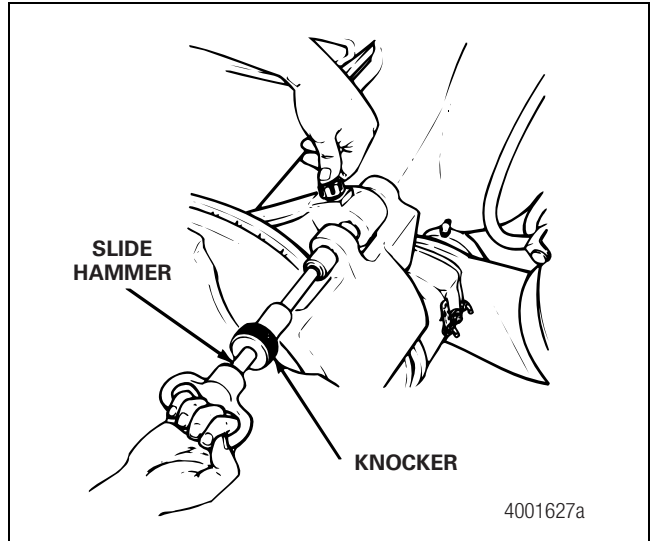

Figure 10.8
- D. Press the end of the retainer to release the slide pin. Use the knocker to loosen and remove the pin. Figure 10.8.